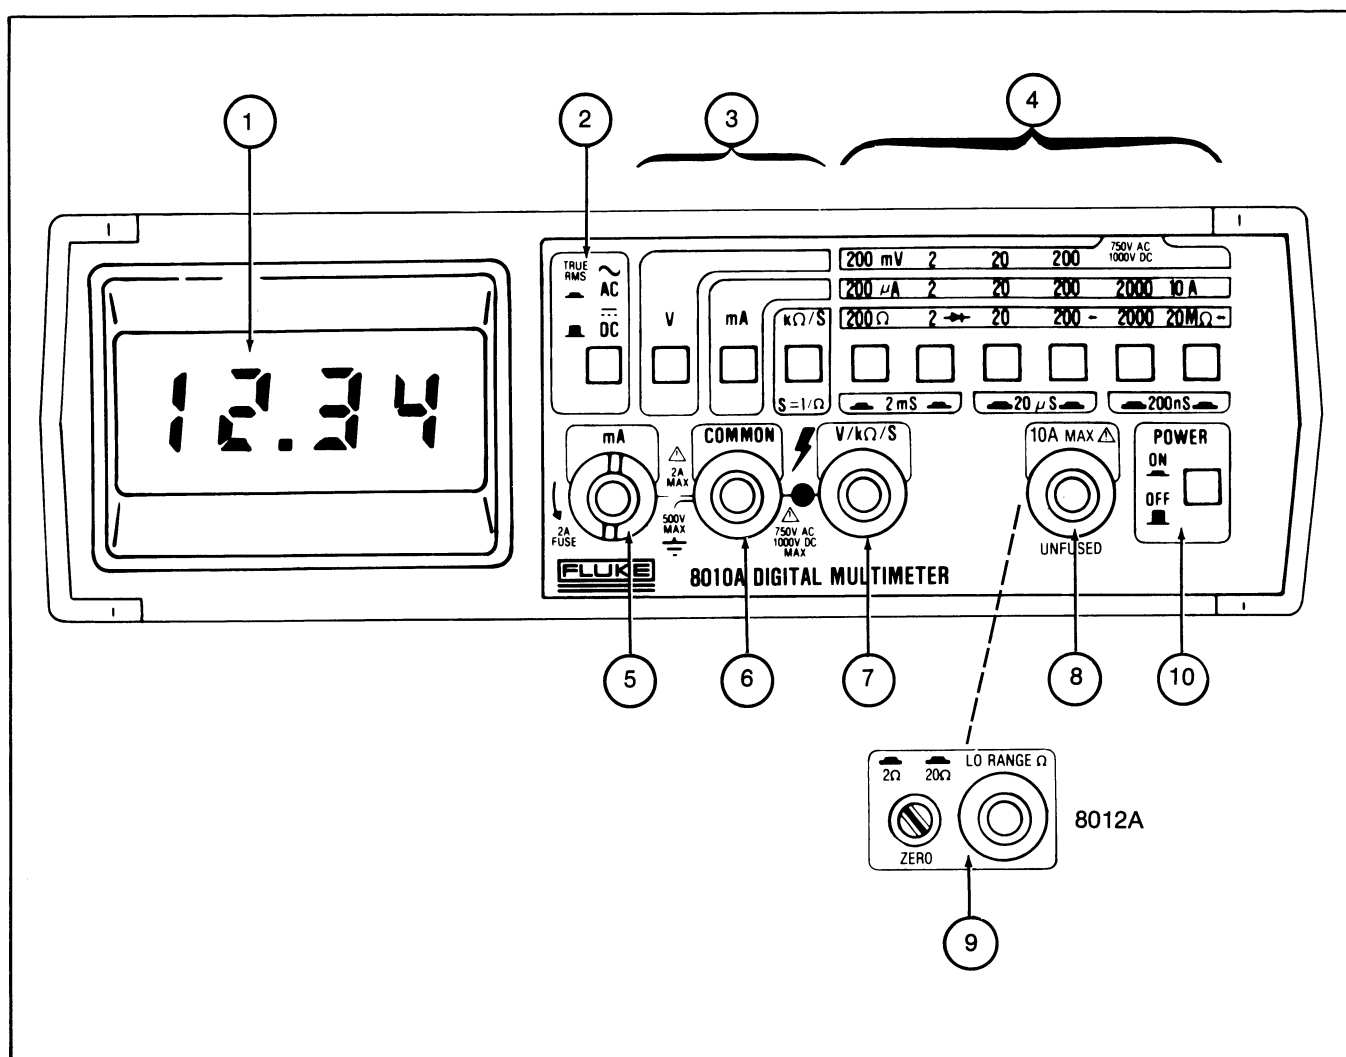

Figure 2-1. Controls, Indicators, and Connectors
3. Refer to Figure 2-1, item 5 for the location of the fuse holder.
2-14. Before using your Multimeter, take a few minutes to become familiar with the use of its controls, indicators, and connectors. The front panel features are shown in Figure 2-1 and described in Table 2-1. The features of the Liquid Crystal Display (LCD) are also described in the following paragraphs.